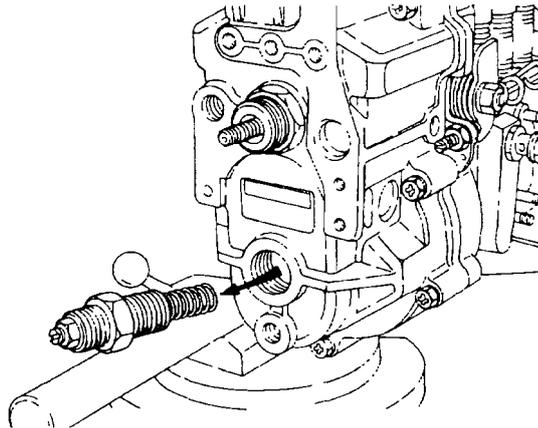

Figure 84 Removing the Idling Spring Capsule
- g. Remove the cap nut from the idling spring capsule, loosen the locknut and remove the idling spring capsule (Figure 84).